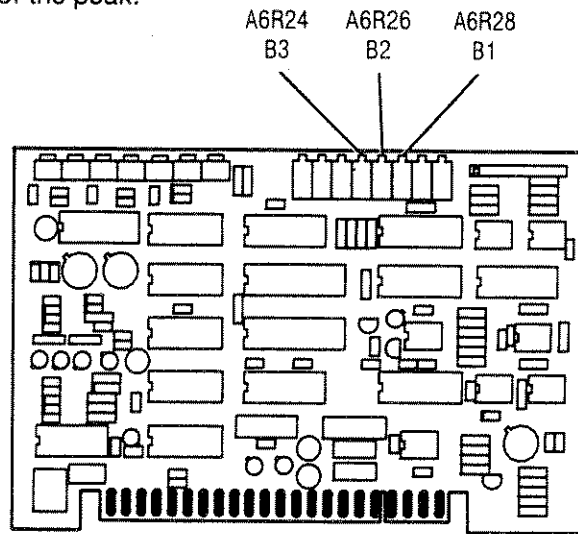
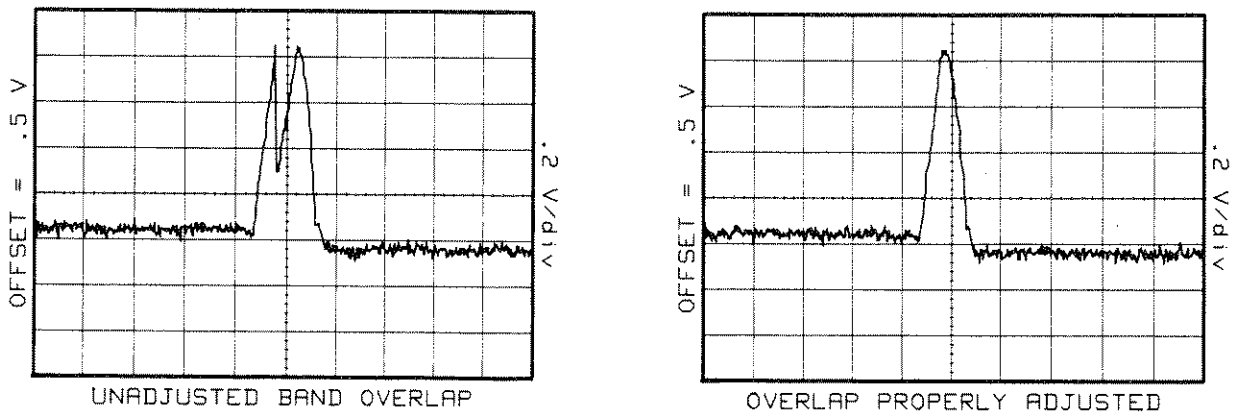

Figure 5-12. Band Overlap Adjustment Locations
Figure 5-13. Band Overlap Adjustment Waveform
6. Adjust A6R28 (B1) to bring the right side peak over to the switch point so that the right half of this peak mates with the left half of the other as shown in figure 5-13. See figure 5-12 for the adjustment location. The peak should be undisturbed as it moves through the bandswitch point.